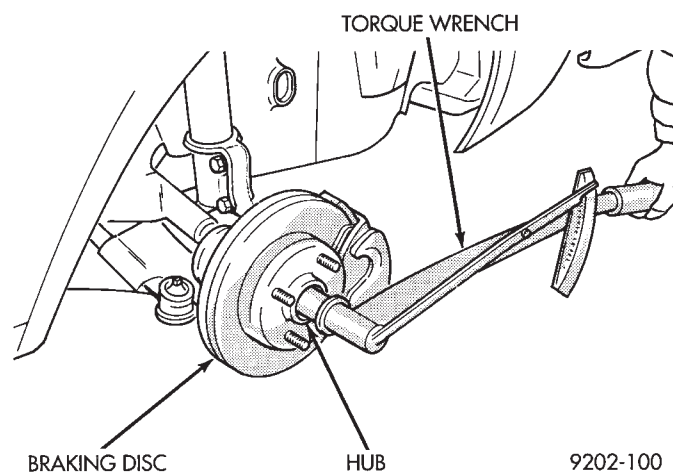

Fig. 18 Tighten Hub Nut
- (12) With brakes applied, tighten front hub nut to (244 N•m) 180 ft. lbs. torque (Fig. 18).